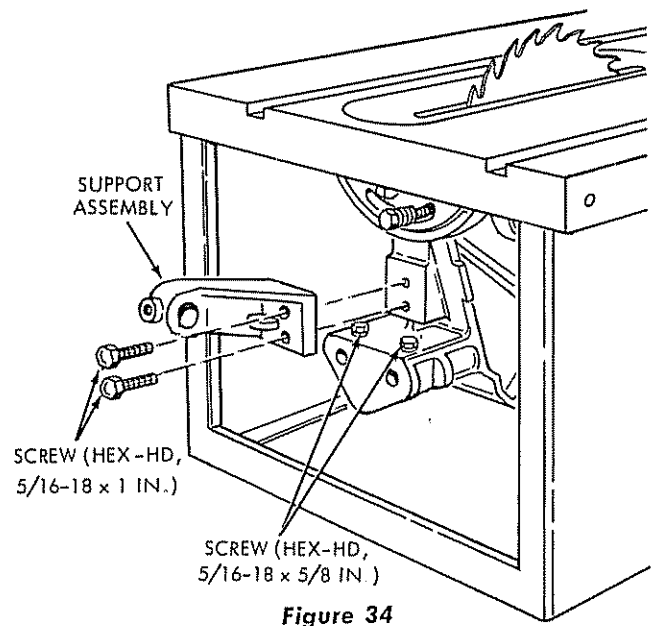
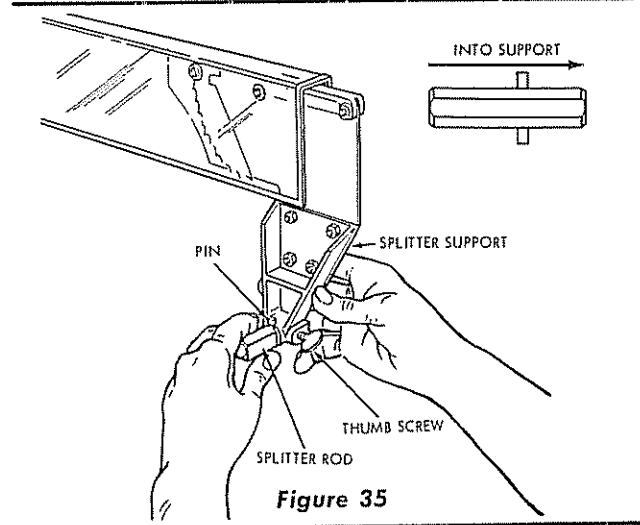

Figure 34
Figure 35
- (1) Install the two 5/16-18 x 5/8-inch, hex-head screws loosely in holes at rear of saw cradle as these screws cannot be installed after attaching the splitter blade bracket. (See figure 34.) These are the screws that secure the motor support in the cradle.
- (2) Install the splitter blade bracket with two 5/16-18 x 1 inch hex-head screws. Tighten screws finger tight at this time.
- (3) Refer to figure 35 and hold the splitter rod to the left of splitter support. Rotate the splitter rod so the "flat" on the rod is toward the operator. Then slide the splitter rod into the splitter support from the left until the pin (through the rod) bottoms in the slots in splitter support. (See figure 35.) Tighten the thumb screw firmly against the "flat" of splitter rod.
**NOTE:** After the splitter blade is properly aligned, always remove the guard by loosening the thumb screw (figure 35) and sliding the assembly off the splitter rod. This will avoid upsetting any of the alignment adjustments, as the pin in the splitter rod will serve as a "stop" when the guard is installed.